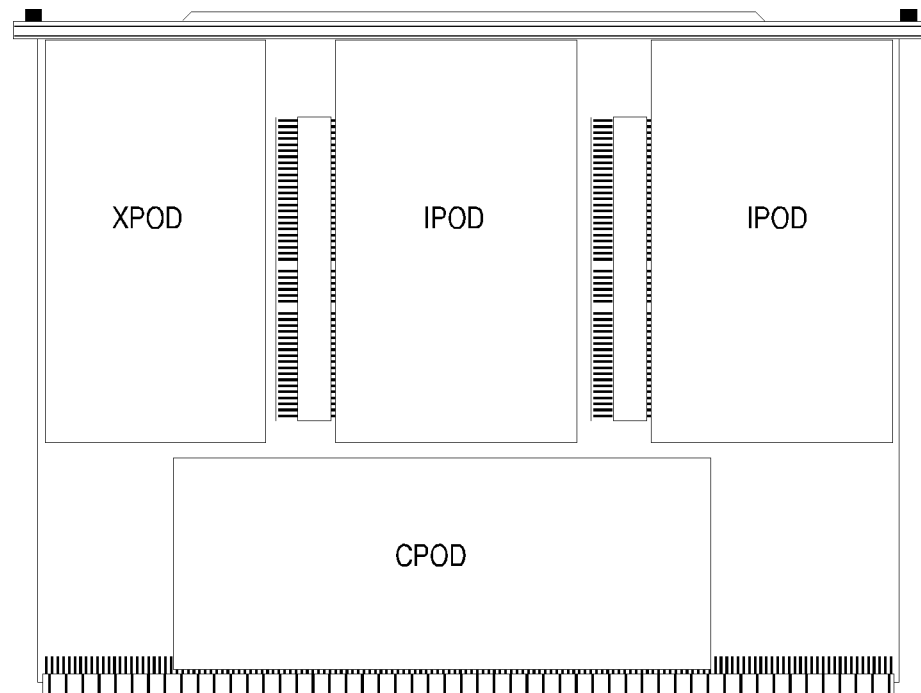

Figure 6-11. ICM Field-Replaceable Subassemblies
3. Slowly slide the ICM straight out of the chassis and place it on a static-protected work surface. This exposes the field-replaceable subassemblies of the ICM (see **Figure 6-11**).
The ICM may have one or two IPODs, which are located in the left front and center front of its chassis (see Figure 6-11).
An ICM has one XPOD, which is located in the right front of the ICM (see Figure 6-11) when viewed from the faceplate side.
The ICM has one CPOD, which is located in the rear of its chassis (see Figure 6-11).